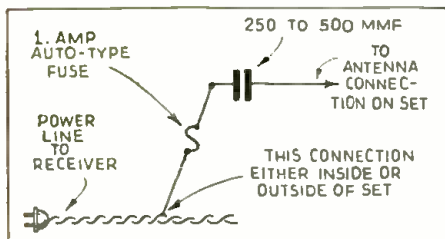
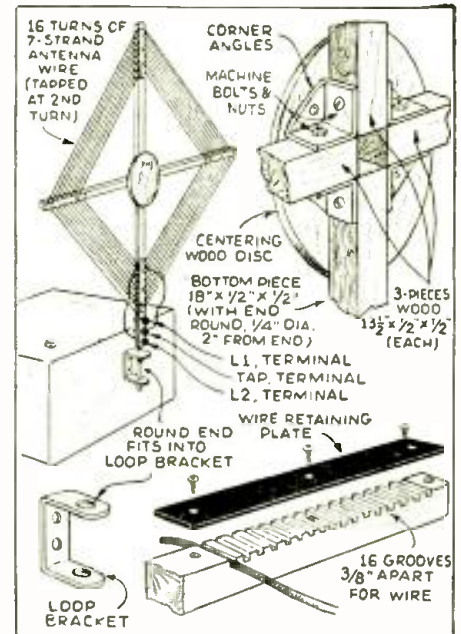

Fig. 3. A means of installing a safely-fused antenna eliminator in any A.C., D.C., or A.C.-D.C. set.
Fig. 2. Details of the collapsible loop.
**B**UILT-IN ANTENNA ELIMINATOR FOR MIDGET RECEIVERS. I have often been called upon to install a small midget-type radio set for a family whose members could not quite agree where they wanted the receiver. Perhaps the father wanted it in the parlor or the library, the mother might want it in the kitchen or the sewing room, and the son or daughter might want it in the bedroom. Of course it would be a rather large job to bring a lead-in from the outside antenna system into all these different rooms, so in order to save time for myself and money for my customers, I figured out the arrangement shown in Fig. 3.
The selectivity of the single-stage, 456 kc. I.F. amplifier is given in Fig. 2, where *kilocycles off-resonance* figures are plotted against *relative response in decibels*. In obtaining the selectivity curve a constant input voltage was fed into the grid of the converter tube and the output voltage was determined in the diode detector circuit. As will be noted, the top of the curve is relatively flat and the sides are quite steep. In order to give a better idea of the performance, the scale used for kilocycles off-resonance is considerably spread out. The band-pass feature is evident in that the response of the I.F. amplifier to a signal 10 kc. off-resonance is "down" approximately 35 db, while the response to audio frequencies of 5 kc.'s is only down approximately 7.5 db.
Figure 3 shows the *overall selectivity* obtained with a constant voltage being fed into the antenna circuit at various frequencies away from that to which the set is tuned. The top of the resonance curve is considerably more pointed than that of Fig. 2, while the base of the curve is not a great deal narrower than that of the intermediate frequency amplifier itself. The difference between the curves shown in Figs. 2 and 3 indicate the selectivity characteristics of the
The loop is held in an upright position by means of a bracket. See Fig. 2.